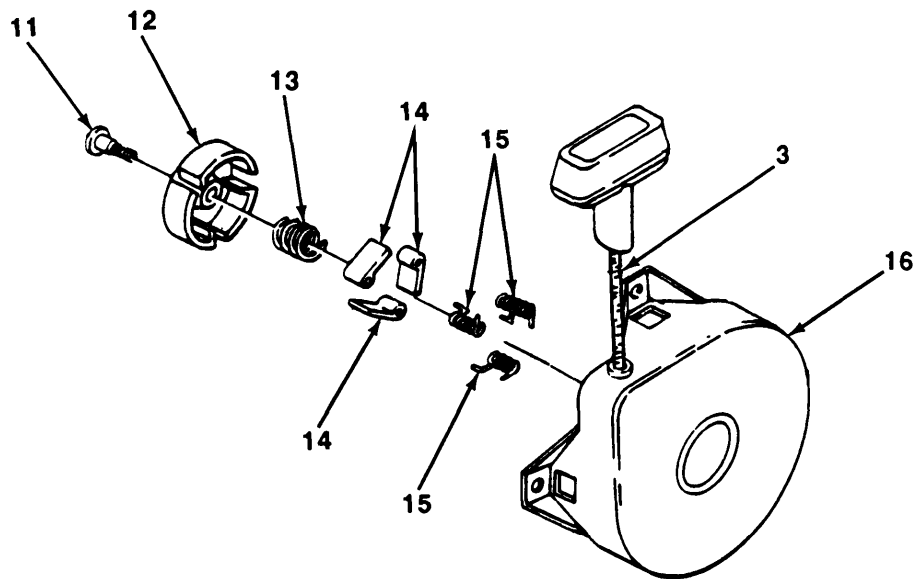

Figure 6-3. Starter Dog Set Replacement.
Refer to Figure 6-3, Starter Dog Set Replacement, for step a.
**Refer to Figure 6-3, Starter Dog Set Replacement, for steps j through l**
j. install three springs (15) in starter cover (16) with angled ends up in cut outs.
k. Install dog set (14) in cutouts by moving ends of springs out and away from starter cover. Dogs should now be held in place by springs.
l. Apply adhesive (Item 2, Appendix E) to threads of screw (11), and install spring (13) and dog retainer (12) on starter cover (16) with screw.